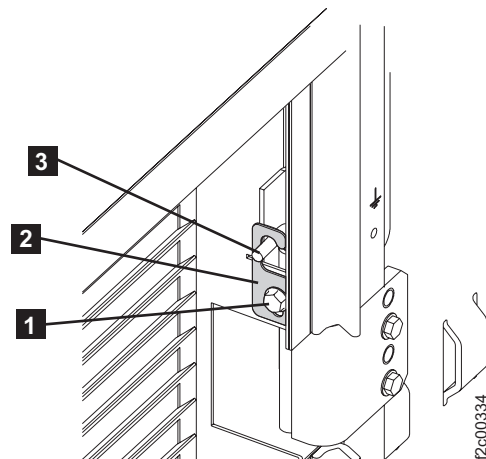

Figure 11. Removing rear left cover on Rack-1
- c. On the upper and lower door hinges, loosen the screw **1** and move the retention plate **2** that prevents the hinge pin **3** from being removed. Refer to Figure 11.